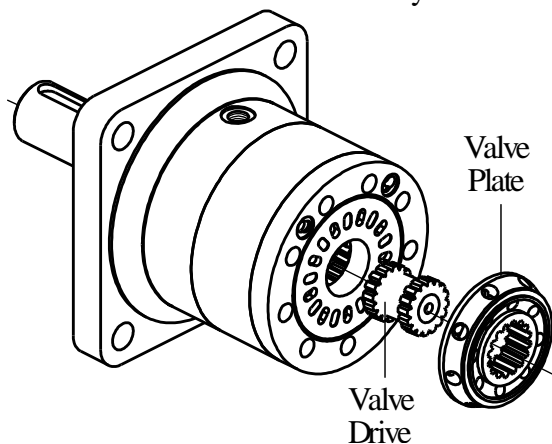

Fig.2
5. Separate Valve Plate from Channel Plate and remove Valve Drive (see Fig.2).